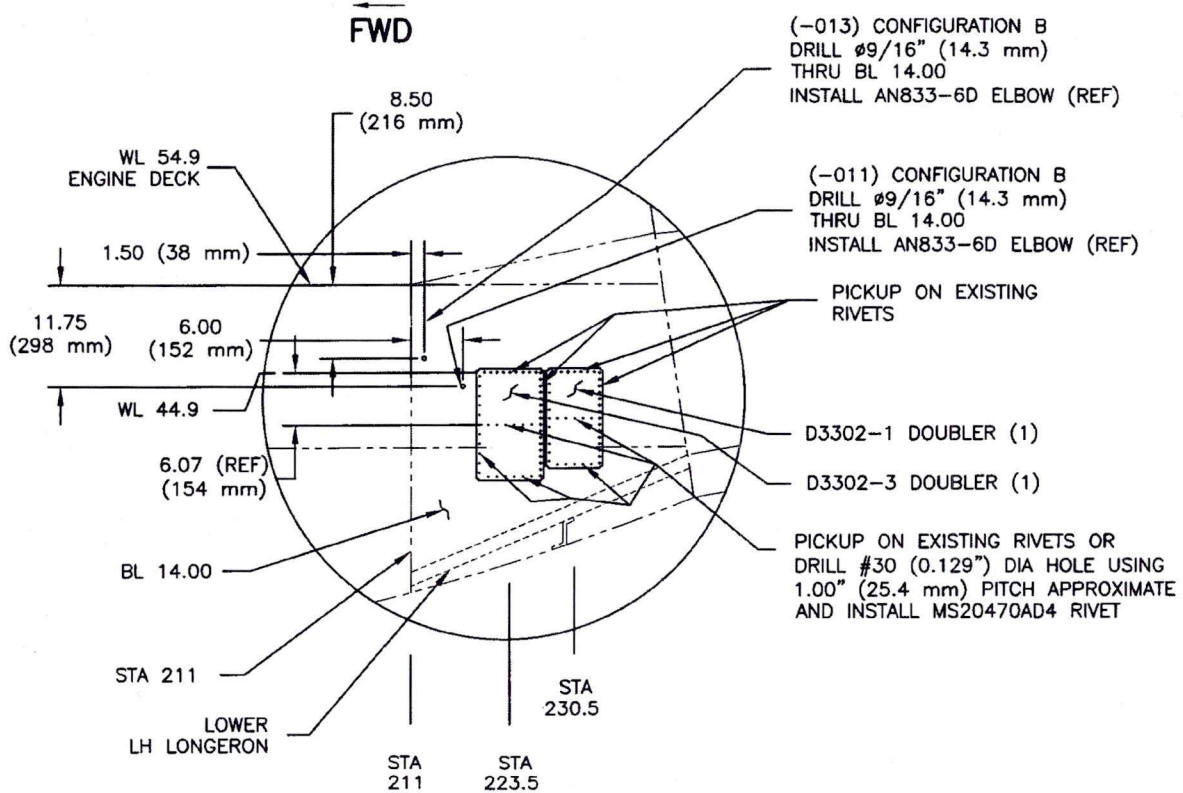

Figure 6 – Section G-G.
- a) Install D3302-3 Doubler in accordance with Figures 5 and 6. Parts installed in the same location as the doubler must be temporarily removed and re-installed through the doubler. Locate and drill $\varnothing 0.562$ (14.3 mm) Hole for AN833-6D elbow in BL 14.00 wall as per Figure 6. Install AN833-6D elbow.
- a) Install D3302-3 Doubler in accordance with Figures 4 and 6. Parts installed in the same location as the doubler must be temporarily removed and re-installed through the doubler. Locate and drill $\varnothing 0.562$ (14.3 mm) hole for AN833-6D elbow in BL 14.00 wall as per Figure 6. Install AN833-6D elbow.